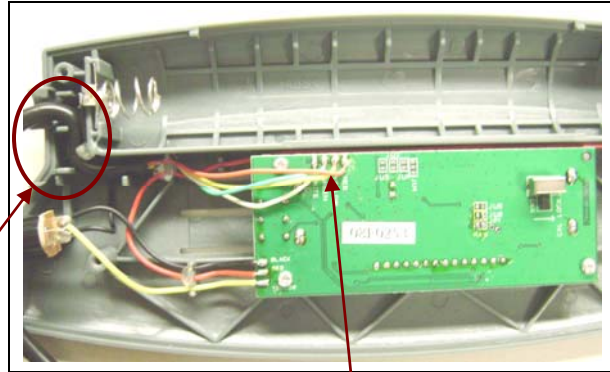

Figure 3-1. Load Cell leads are soldered to the Printed Circuit Board.
4. Unsolder the Load Cell Cable's leads from the PCB. (See Figure 3-1.)
7. Install base cable into Housing as shown in Figure 3-1.